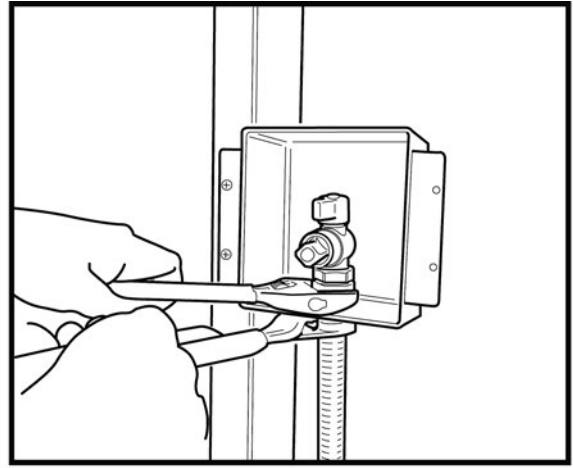

Figure: 4-32
7. Secure valve assembly to box with lock-nut. Figure: 4-32